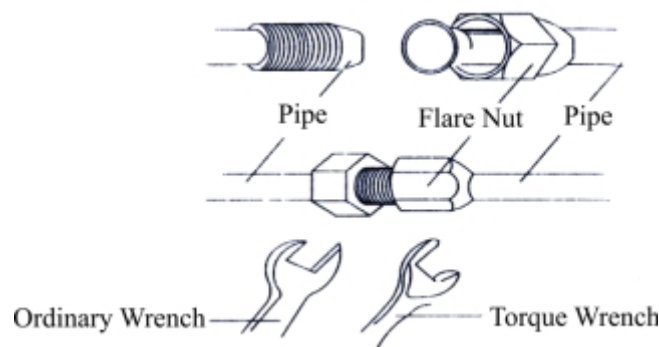

Figure 18: Tightening the Joint
- Use a torque wrench to tighten the joint in accordance with the recommended torque in Table 6 and as shown in Figure 18.